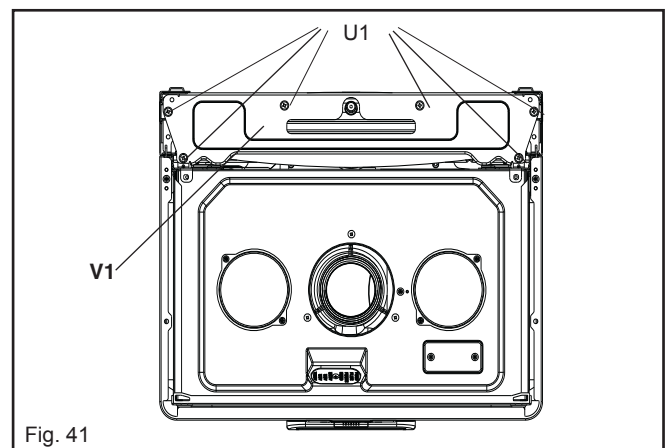

Fig. 41
6.18.1 EXPANSION VESSEL REMOVAL (with sufficient clearance above, fig. 41)